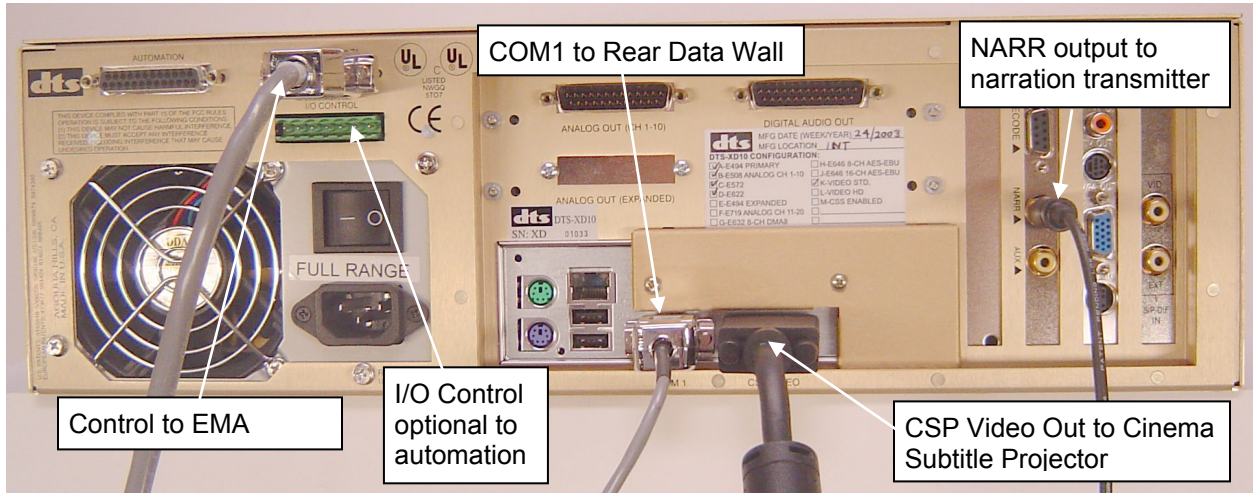
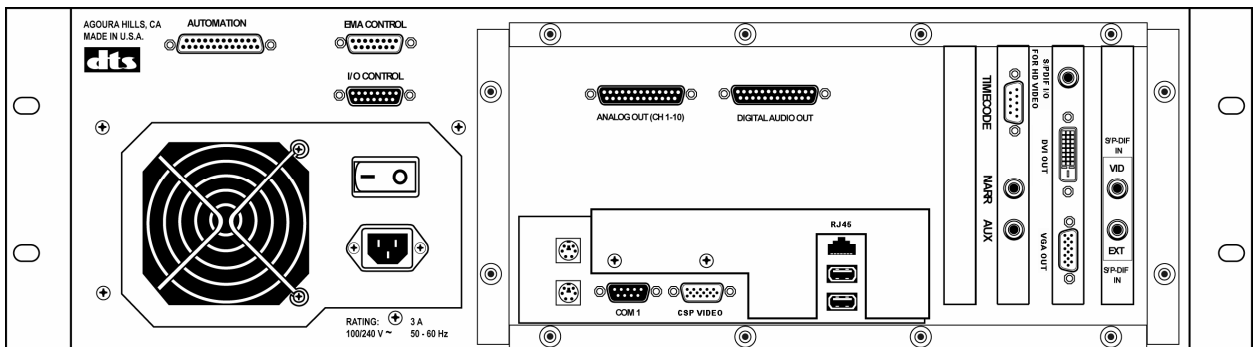

Figure 12. XD10 CSS Option Cabling for Old XD10 Units
Figure 13. XD10 Rear Panel for XD10 Units from Aug 2006 +
- The I/O Control connector shown in Figure 12 is for XD10 units prior to August 2006. The I/O Control connector on units from August 2006 and on is shown in Figure 13.